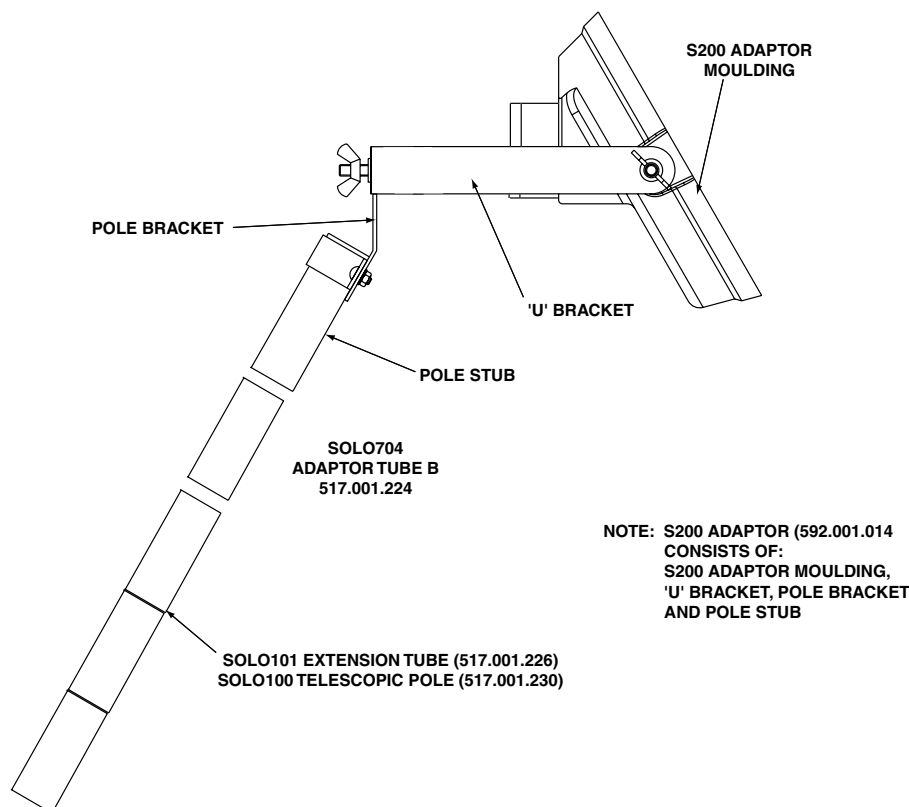

Fig. 1 T210+ Test Source and S200 Series Adaptor
- 1) To assemble the T210+ to the S200 adaptor S/C No. 592.001.014, see Fig 1.